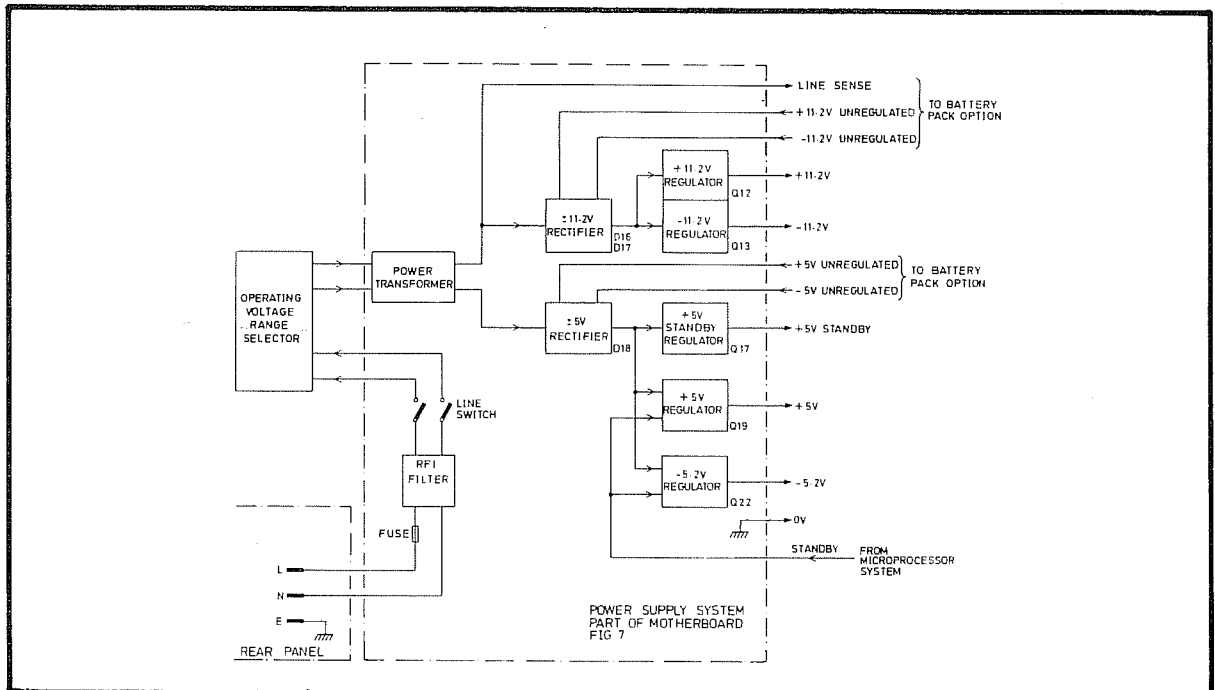

Fig 6.9 The Power Supply System
- 83 A block diagram of the system is given in Fig 6.9. The AC supply enters at a plug mounted on the rear panel, and passes via a fuse and RFI filter, mounted on the motherboard, to the line switch.